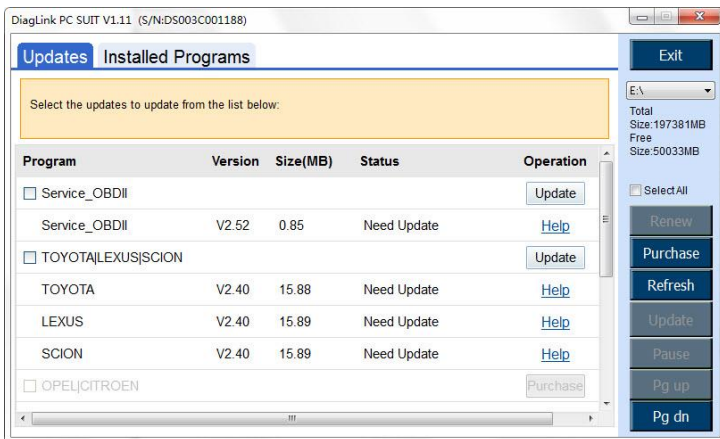

Figure 10.8
- 8) After reloading, you can install the selected program by clicking **Update** button (Figure 10.8).